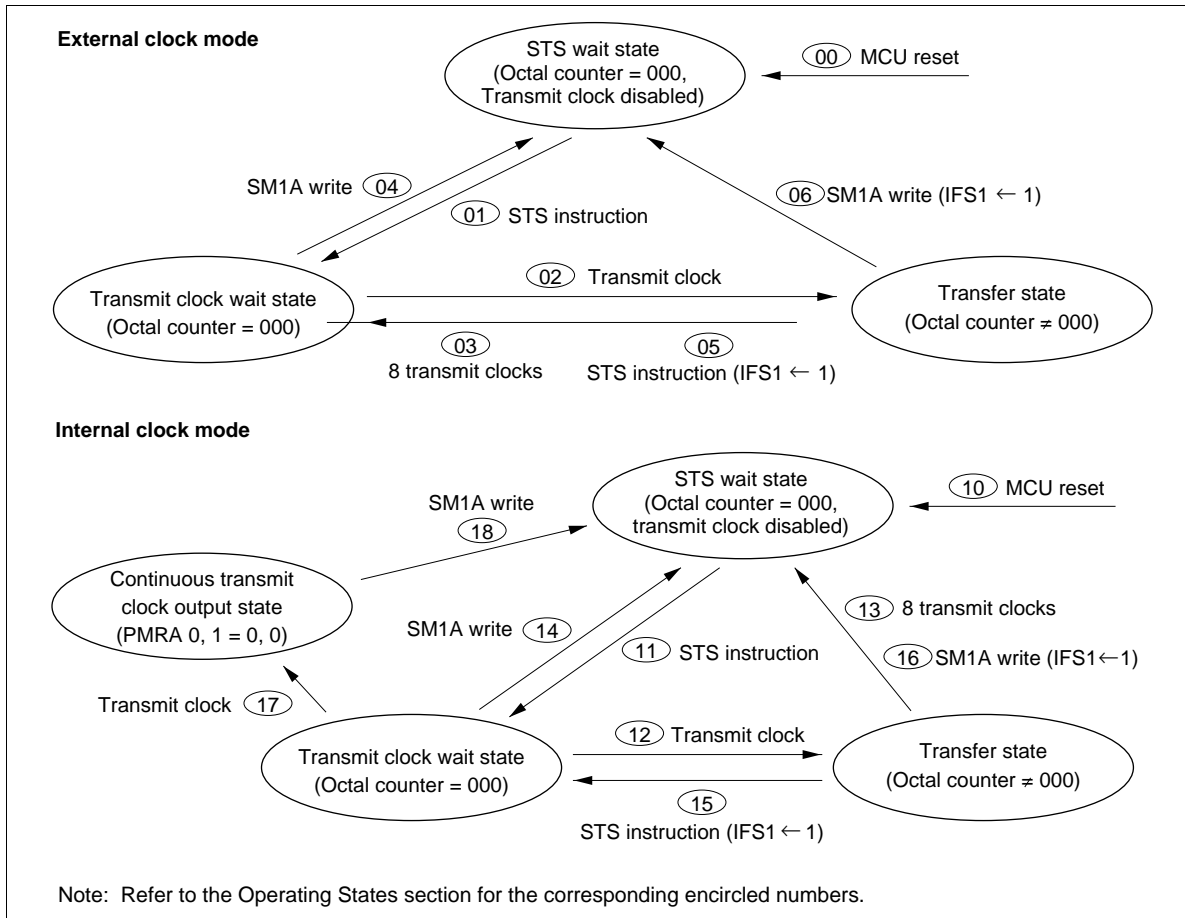

Figure 53 Serial Interface State Transitions
Operating States: Serial interface 1 has the following operating states; transitions between them are shown in figure 53.
- **STS wait state:** Serial interface 1 enters STS wait state by MCU reset (00, 10 in figure 53). In STS wait state, serial interface 1 is initialized and the transmit clock is ignored. If the STS instruction is then executed (01, 11), serial interface 1 enters transmit clock wait state.
- **Transmit clock wait state:** Transmit clock wait state is the period between STS execution and the falling edge of the first transmit clock. In transmit clock wait state, input of the transmit clock (02, 12) increments the octal counter, shifts serial data register 1 (SR1L: \$006, SR1U: \$007), and enters the serial interface in transfer state. However, note that if continuous clock output mode is selected in internal clock mode, the serial interface does not enter transfer state but enters continuous clock output state (17).